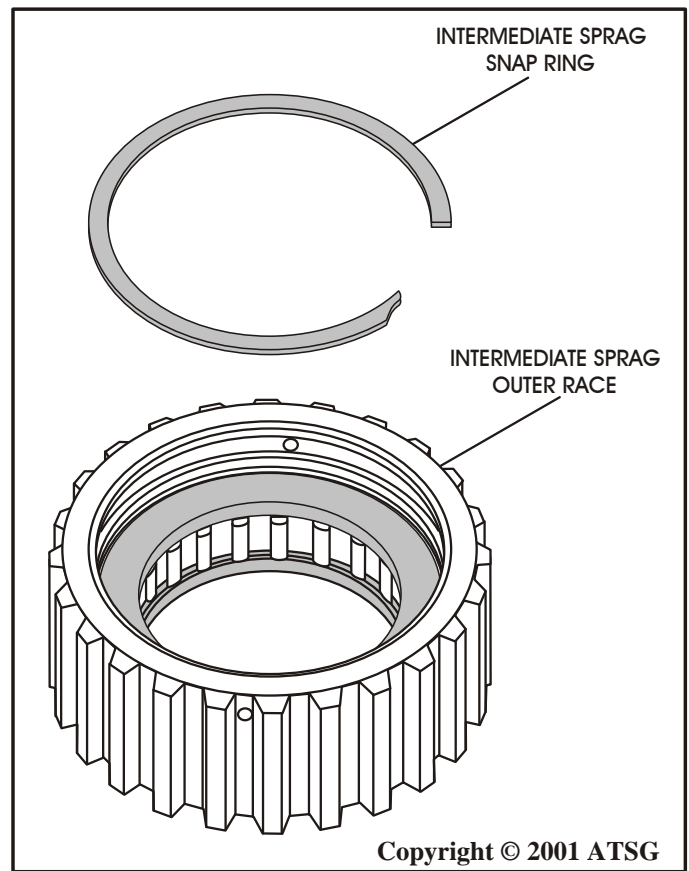

Figure 108
9. Install the second snap ring into the groove in the outer race, as shown in Figure 108.